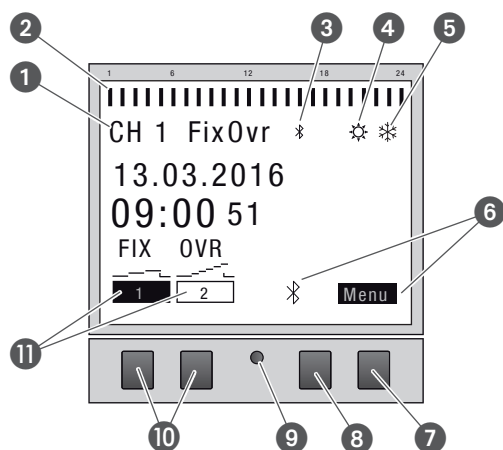

Fig. 2: Display layout
- ② Programmed switching times
- ③ Bluetooth
- ④ Summer time
- ⑤ Winter time
- ⑥ Function displays of the buttons on the right
- ⑦ Menu button
- ⑧ Bluetooth button
- ⑨ Reset button
- ⑩ Buttons on the left
- ⑪ Function displays of the buttons on the left
### Function of the two buttons on the right (Fig. 2/⑦ + ⑧)
## Function of the two buttons on the left (Fig. 2/10)
The menu structure appears on the display when you press the menu button (Fig. 2/7).